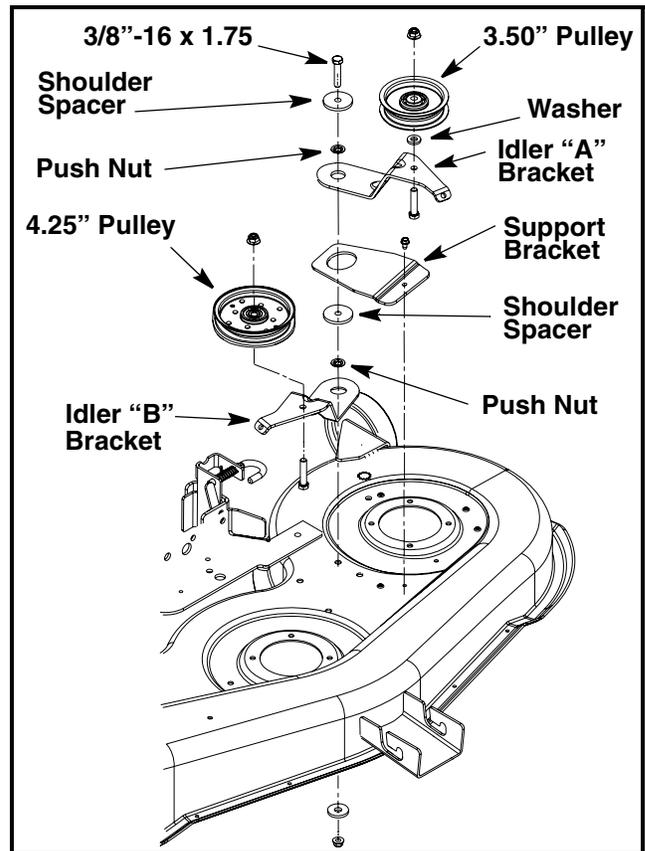

FIGURE 5
8. Install the new 3.50" Idler Pulley, Item 2, with the Flat Washer, Item 8, onto the new Idler Bracket, Item 5, using the bolt removed in Step 7 and a new Flange Lock Nut, Item 7. The higher pulley hub side and flat washer face the idler bracket. Tighten hardware securely. See Figure 5.
10. Pre-assemble the dual idler stack onto the 3/8"-16 x 1.75 bolt removed in Step 7 as shown in Figure 5. Ensure that a new Push Nut, Item 6, is installed onto the bolt after each shoulder spacer.